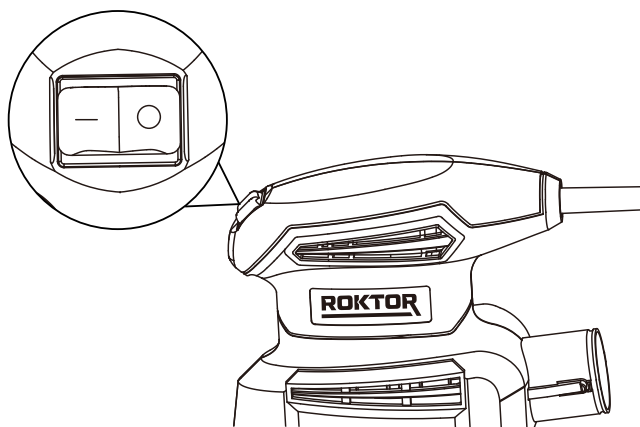

Figure 4
1. OPERATING THE ON/OFF SWITCH (SEE FIG. 4)